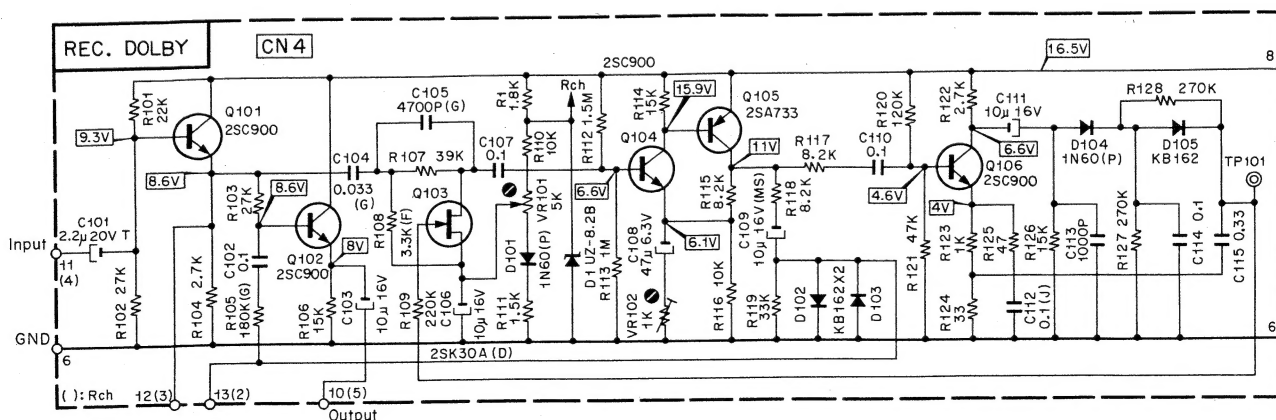

Fig. 2.2.1 Record Dolby NR Processor Circuit Diagram
Fig. 2.2.1 shows a recording mode Dolby NR processor circuit. The circuit input signal is applied through terminal 11 (4), while the signal applied through terminal 12 (3) is fed to the MONITOR switch and is only subjected to impedance conversion by Q101 and is not boosted by the Dolby NR processor. Terminal 10 (5) is the circuit output terminal and is linked with the REC. EQ. AMP via REC. CAL. VR and TAPE selection switches. Terminal 13 (2) is connected with the DOLBY NR switch. For DOLBY NR IN, this terminal becomes open and a feedback current is applied to the base of Q102. For DOLBY NR OUT, this terminal is grounded and the output via the emitter of Q102 is cut from the Dolby NR processor.